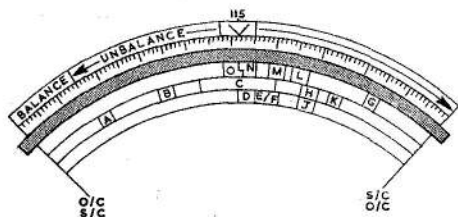

Fig. 3. Meter 1 face plate
4. On the left-hand side of the front panel is a multi-range instrument METER 1. The scale (fig. 3) is calibrated in lettered zones which correspond to the engraved marking of the various SELECTOR SWITCH positions. Associated with METER 1 are a SET ZERO control and two spring loaded toggle switches, the functions of which are described in para. 10.